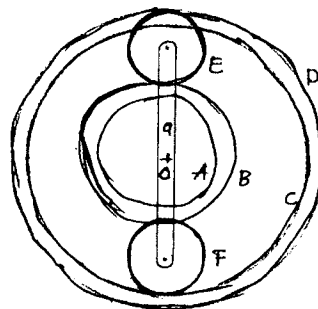

Fig.Q8(b)
b. In an epicyclic gear train shown in Fig.Q8(b), the compound wheels A and B as well as internal wheels C and D rotate independently about the axis O. The wheels E and F rotate on the pins fixed to the arm 'a'. All the wheels are of the same module. The number of teeth on the wheels are $T_A = 52$, $T_E = T_F = 36$. Determine the speed of C if: